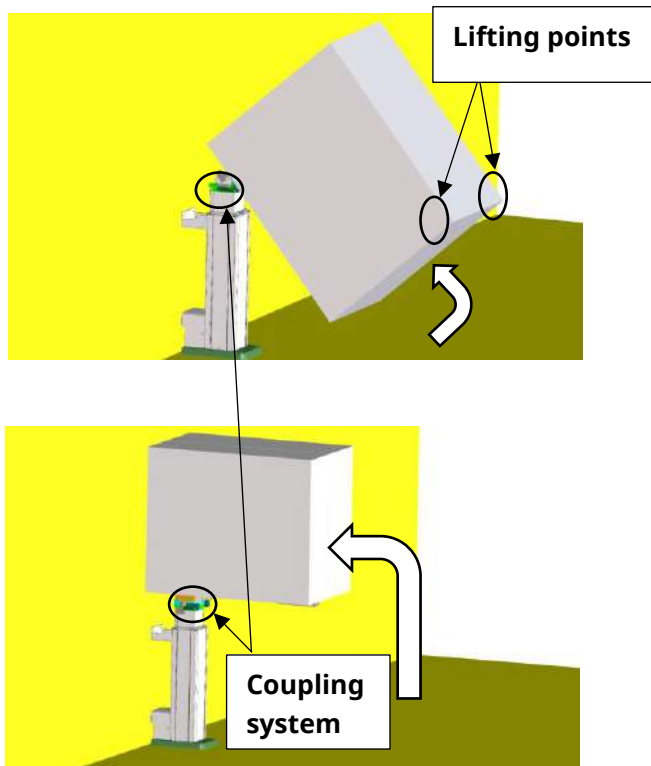
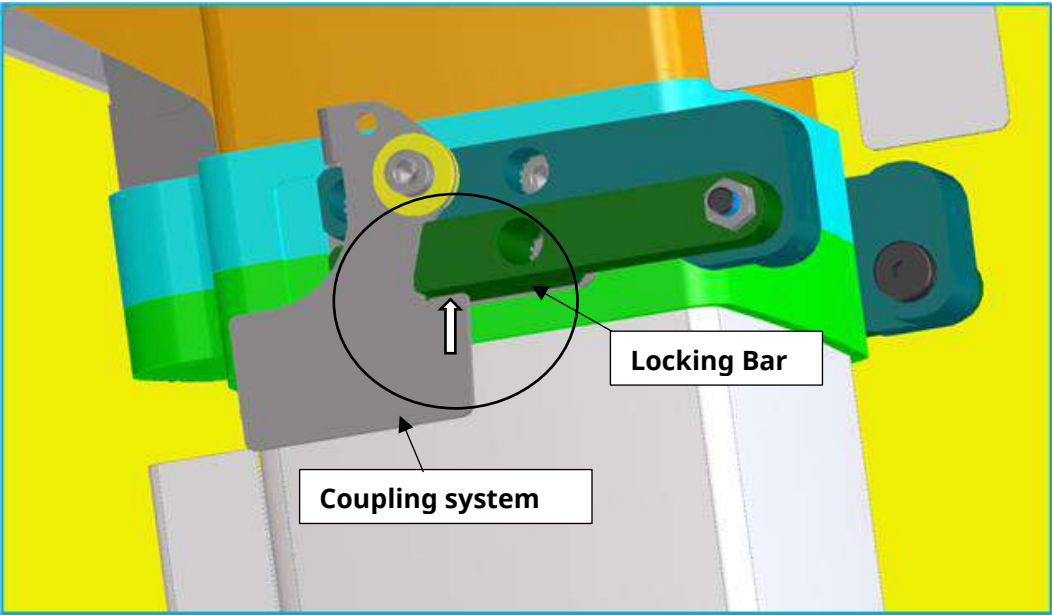
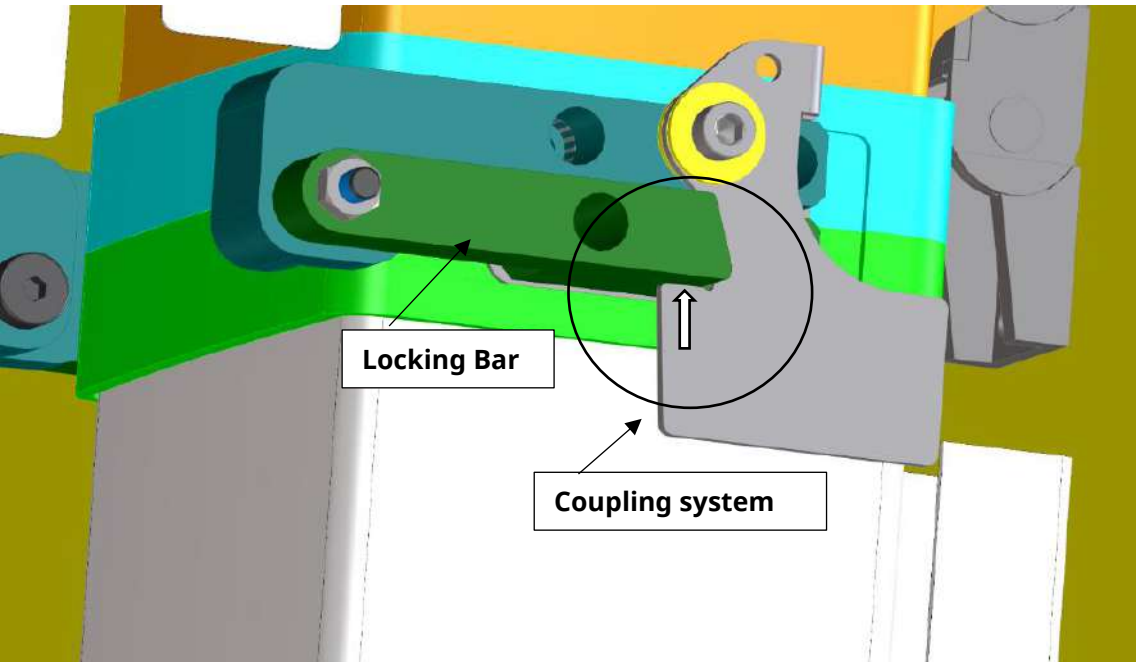

Figure 9
Figure 10
Figure 11
9. Grab the package and lift until the coupling system has engaged the locking bars on both sides, (see *Figure 9*, *Figure 10*, *Figure 11*).